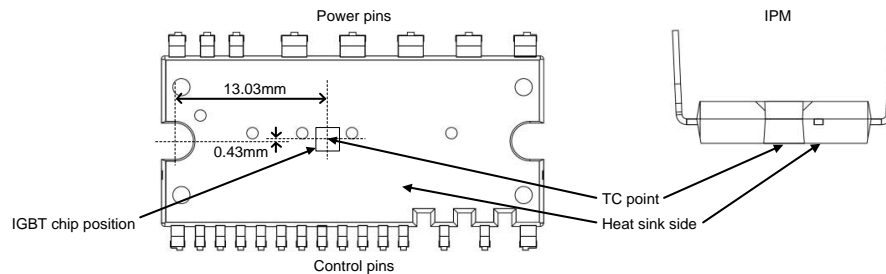

Figure 1. T_C Measurement Point
2. For the measurement point of case temperature (T_C), please refer to Figure 1.